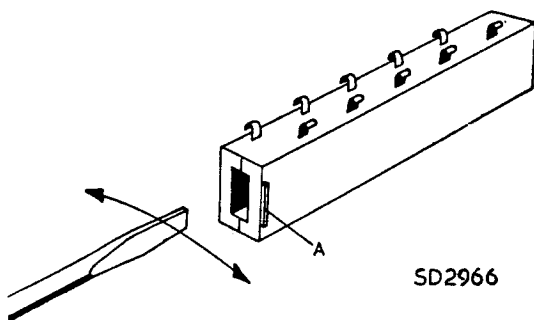

Fig. 6 Switch Removal
9. Switch replacement (See Fig. 6)
Remove the slider of the switch to be replaced (see above). Prise apart the two sections of the stator with a screwdriver blade as shown in Fig. 6. The stator halves can be unsoldered and removed separately from the printed panel.